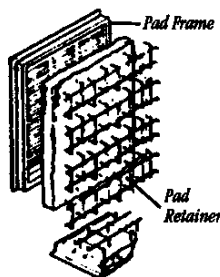

FIGURE 11
2. Carefully remove all pads from retainers. Remove and discard pads (see Figure 11).